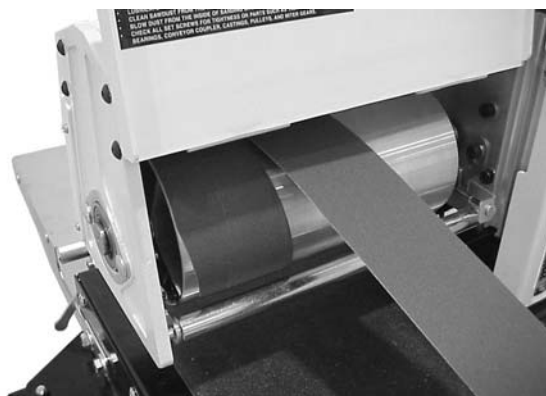

Figure 10
5. Wrap the abrasive strip around the drum, being careful not to overlap the windings, as shown in Figure 10.